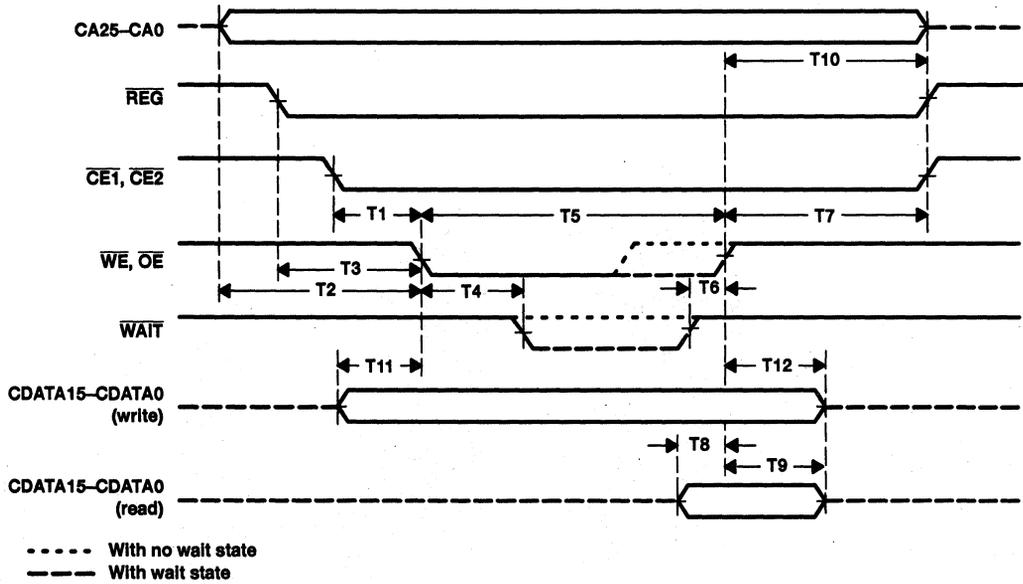

Figure 7. PC Card Memory Cycle
**timing requirements over recommended ranges of supply voltage and operating free-air temperature, memory cycle (for 100-ns common memory) (see Note 6, Figure 7, and Tables 9 and 10)**